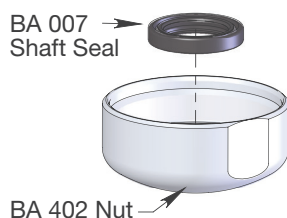

Figure 5: for Step 4
4. Inspect Shaft Seal (BA 007) and remove from Nut if damaged (see Figure 5).